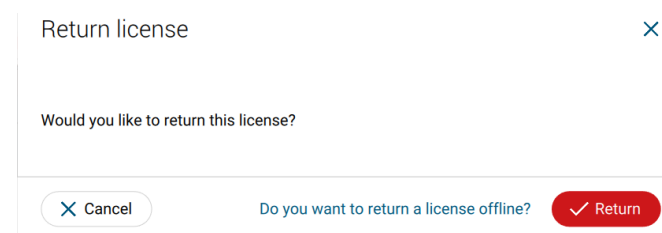

Fig. 150 Return license of IQMaps
3. The window of Fig. 150, shall pop up. Press .